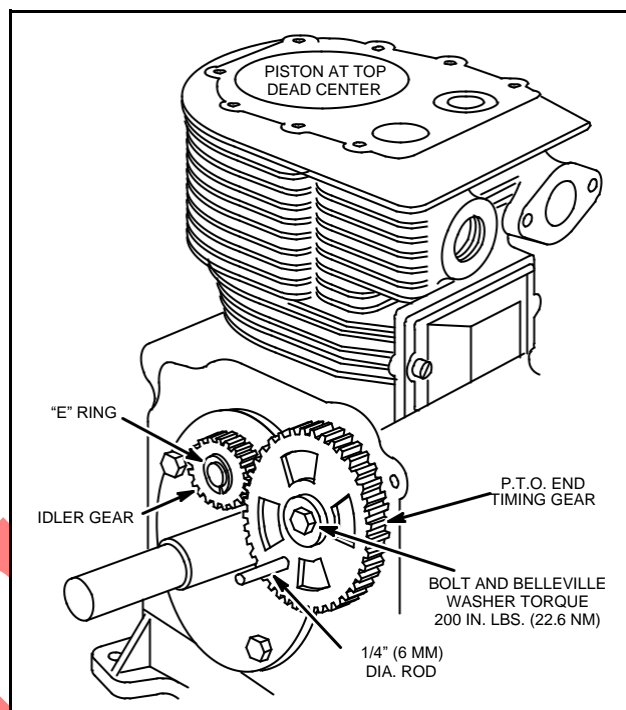

Fig. 184 - INSTALLING AND TIMING PTO DRIVE GEAR
**NOTE:** On Model Series 300400 and 320400 only, place PTO end timing gear on the other end of camshaft. Install short cam gear bolt with Belleville washer, finger tight, Fig. 184.
**NOTE:** For Model Series 300400 and 320400 also see Fig. 184.